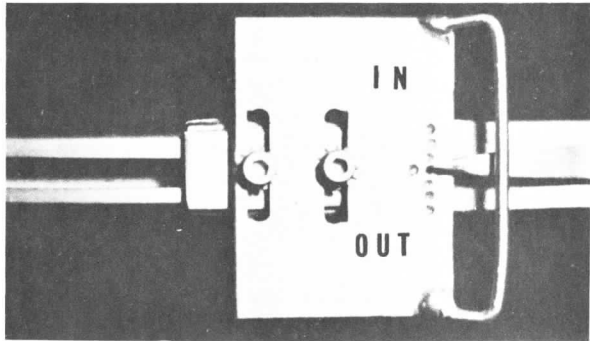
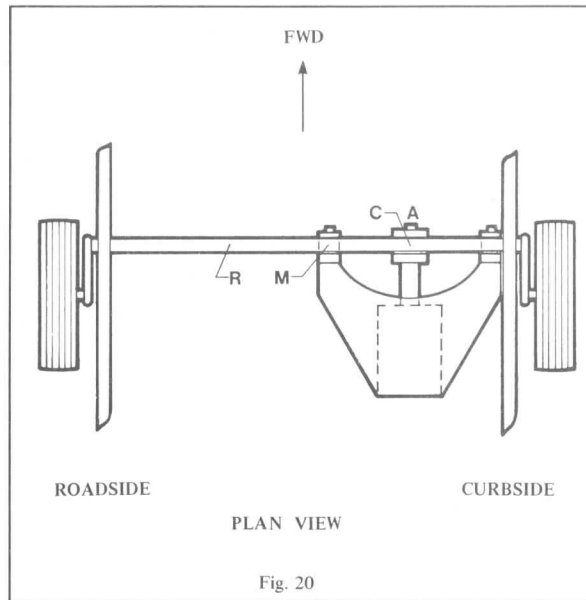

Fig. 16
Fig. 20
5. Remove the gauge from the wall rack, making sure that the pointers are on zero when the gauge is in the rack. (See Fig. 16) If not @ zero, adjust by loosening aligning screws and move to zero.
Read amount of toe-in on scale (Fig. 16). See chart below for specifications. If correction is necessary, bend axle tube with a hydraulic bender. (See Fig. 20) The proper use of this bender is described on page 1-19
1. Attach straightener to any standard floor jack. (See Fig. 20.)
2. Place cylinder jaw (A) at position (C) to correct curbside wheel.
3. Place cylinder jaw (A) at position (R) to correct roadside wheel.
4. Place cylinder jaw (A) at position (M) only when both wheels need to be bent equal amounts in the same direction.
5. Cylinder jaw (A) is moved toward front of the trailer to decrease the amount of toe in.
6. Cylinder jaw (A) is moved toward rear of the trailer to increase the amount of toe in.
HENSCHEN TOE GAUGE Model No. TG 68 (with wall rack) (Fig.16)
(less floor jack) (Fig. 20)